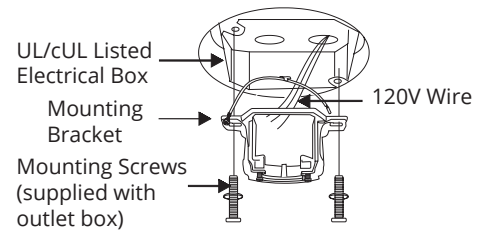

FIG. 7
3. Pass the 120-volt supply wires through the center hole in the ceiling mounting bracket as shown in (**FIG. 7**).
4. Secure the mounting bracket to the ceiling outlet box with the screws and washers provided with your outlet box (**FIG. 7**).